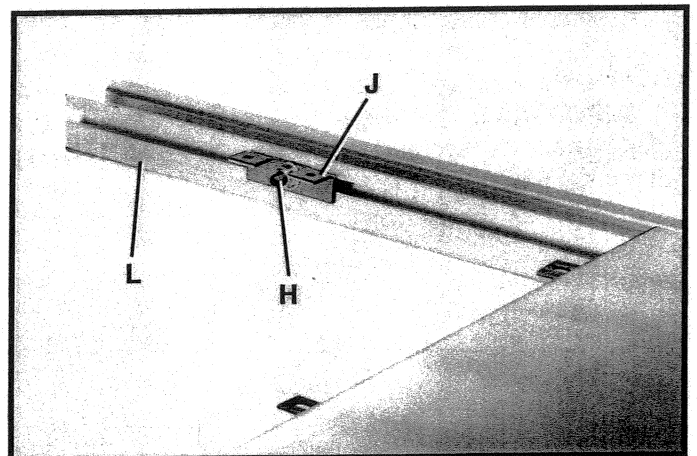

Fig. 22
6. Slide head of carriage bolt (H) Fig. 22, of bracket assembly (J) into the rear channel of front guide rail (L). Do not tighten hardware at this time.